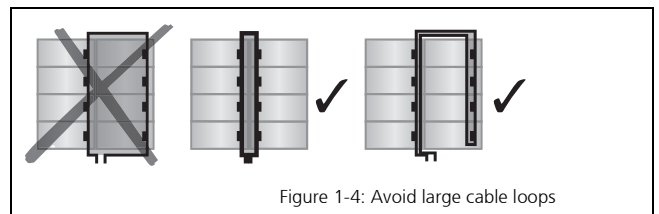

Figure 1-4: Avoid large cable loops
- ➔ Avoid large cable loops (see Figure 1-4).